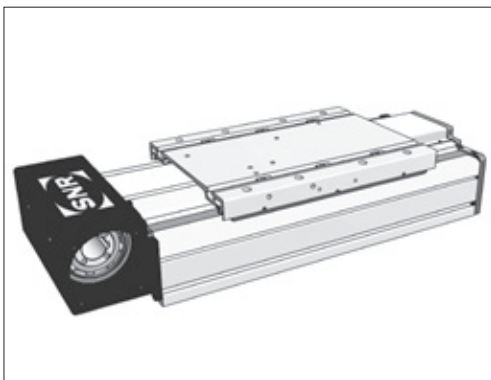

Figure 5.6 — AXDL with toothed belt drive
- 3 drive versions – toothed belt drive, screw drive or toothed belt /  $\Omega$  - drive (Figures 5.6 up to 5.8)